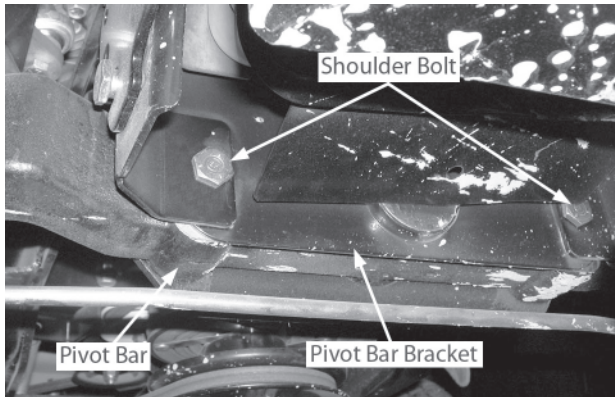

Figure 7-1
- Support the pivot bar, then remove the hex lock nuts securing the two shoulder bolts that pass through the pivot bar bracket, the pivot bar, and tractor frame. See Figure 7-1.
- Slide a half inch flat washer, with a maximum thickness of .030 inch, onto each shoulder bolt. Reinstall the shoulder bolts w/washers and fasten with the two hex lock nuts. See Figure 7-1.